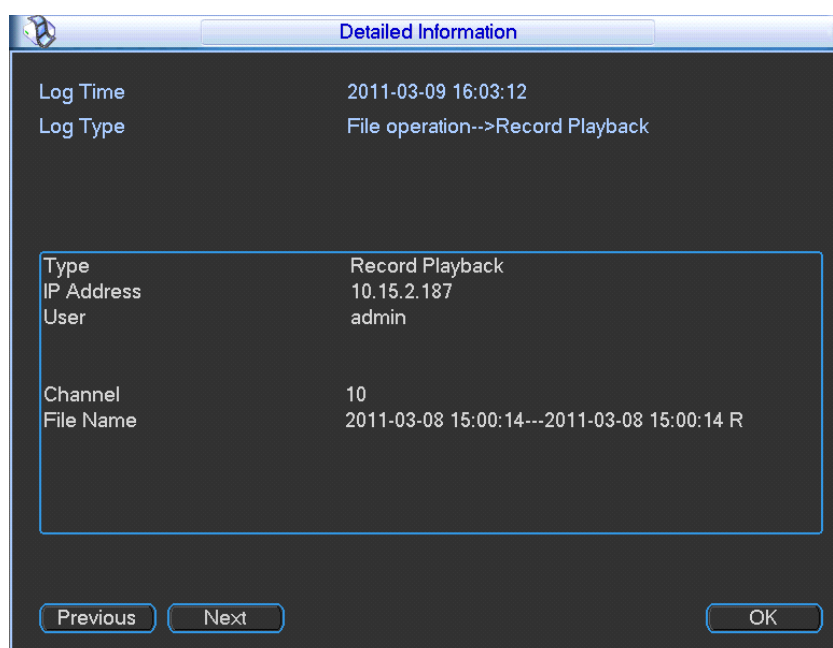

Figure 3-23
- Details: Click the Details button or double click the log item, you can view the detailed information. See Figure 3-23. Here you can use rolling bar to view information, or you can use Page up/Page down to view other log information.